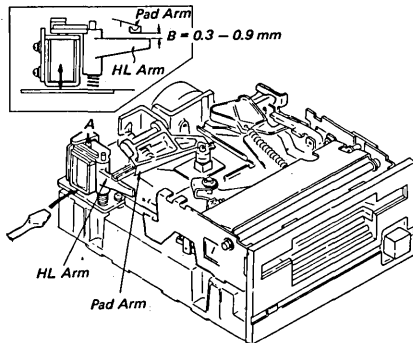

Fig. 5-9 HL Arm Height Adjustment
- Push down the plunger core of the head load ass'y at point A. (Refer to Fig. 5-9)
- Check if clearance B between the HL Arm and pad arm is set at a value within the range of 0.3 to 0.9 mm. (Refer to Fig. 5-9)
- Insert a ⊖ driver beneath the plunger solenoid and slowly push up the plunger solenoid until clearance B becomes the specified value. (Refer to Fig. 5-9)